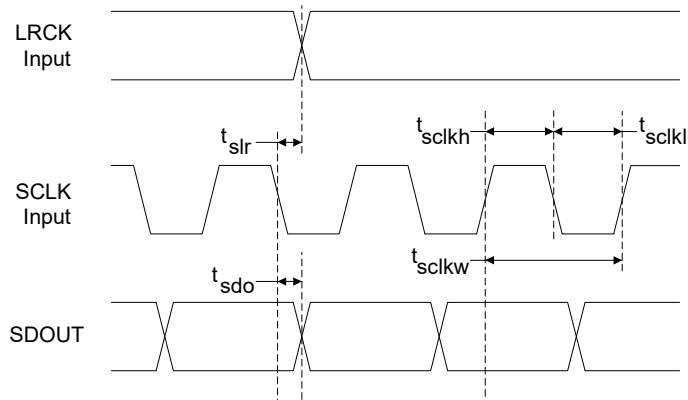
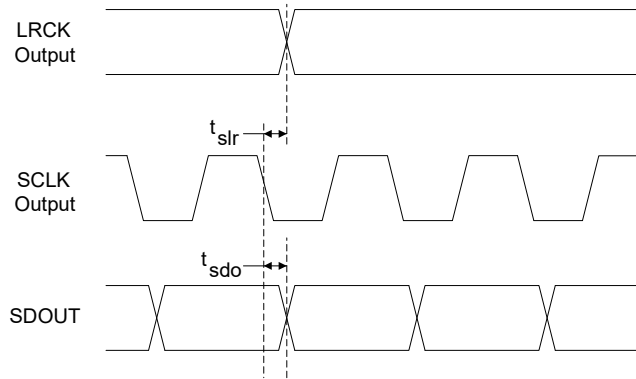

Figure 1. Master Mode Serial Audio Port Timing
Figure 2. Slave Mode Serial Audio Port Timing
12. See Figure 1 and Figure 2 on page 15.